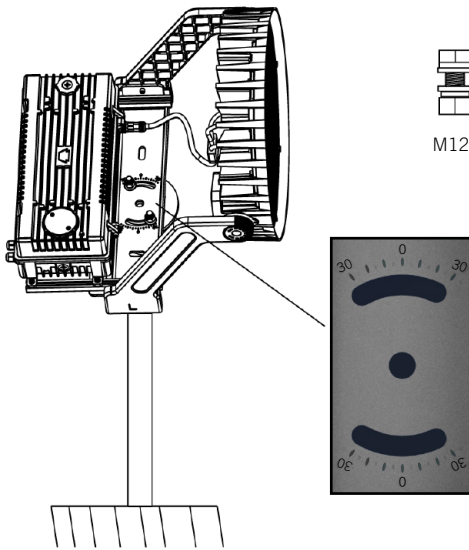

Figure 6
- The support bracket on the yoke mount comes with additional drill holes that allow for horizontal adjustment, as shown in Figure 6);
- Once the proper angle has been determined, use no fewer than (2) M12 nuts, bolts, and washers to fasten the fixture into place.